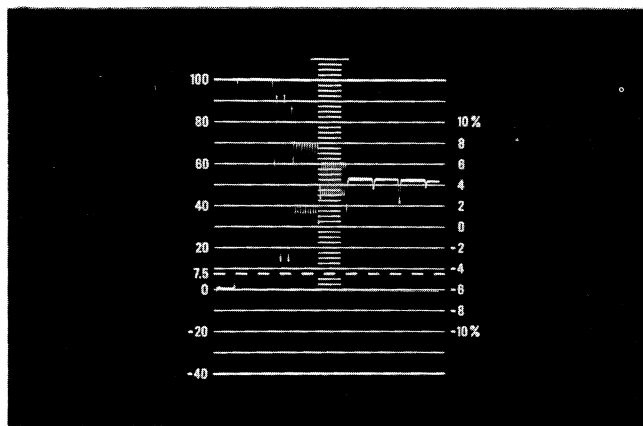

Fig. 5-4. Correct multiburst video signal display on Type R520.
REQUIREMENT—Multiburst input video signal should present a display on the Type R520 as shown in Fig. 5-4.
- d. CHECK—Type R520 display; must appear the same as that shown in Fig. 5-4, see the luminance bandwidth table for the numerical figures for the display.